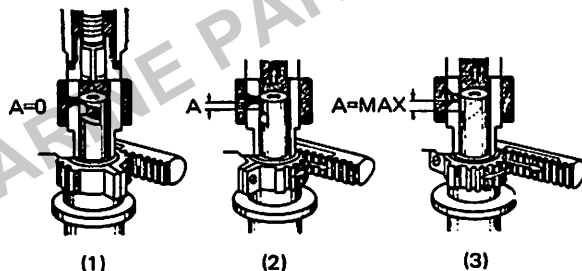

Fig. 4-5 Effective stroke
Fig. 4-5 shows injection volume at each plunger rotating position.
- 3) By turning the plunger to the position shown in Fig. 4-5 (3), injection volume becomes maximum, which means effective stroke is maximum.